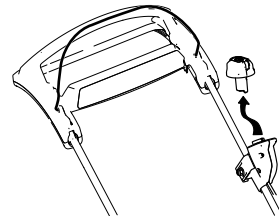

Figure 21
1. Remove the electric-start button (Figure 21).